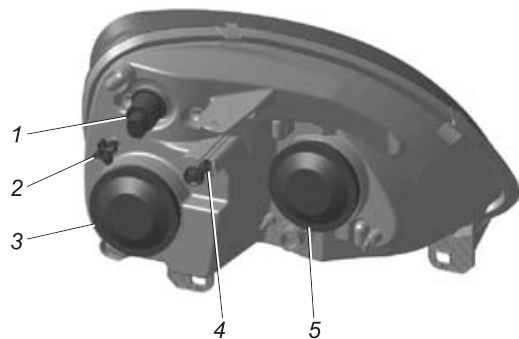

Fig. 8.4. **Headlamp-block**
Headlamps. To replace dipped beam and clearance lamp bulbs it is necessary to remove rubber cover 3 (Fig 8.4).
- adjust the light beams by knobs 2 (Fig. 8.4) and through opening 4 for each headlamp in turn.